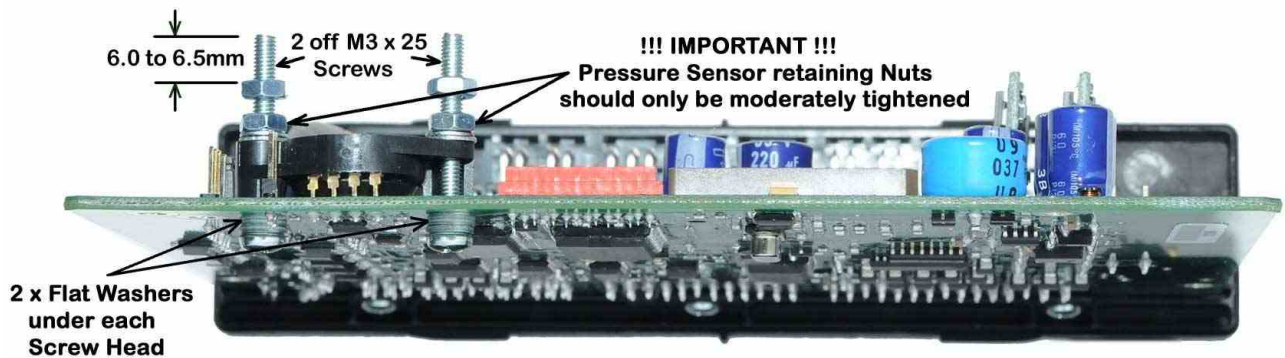

Figure 5 Mounting screw replacement
2.3 MOUNT THE KNOCK PROCESSOR face down on the top of the ECU PCB, above the Pressure Sensor, using longer Pressure Sensor attachment screws (supplied). Prepare ECU by replacing the Pressure Sensor screws with the supplied M3 x 25mm screws (2off). To avoid Pressure Sensor damage, replace one screw at a time and only moderately tighten the sensor retaining nuts to avoid crushing the sensor mounting lugs. Install a second nut on each screw, positioning it 6 to 6.5 mm from the screw end (see Fig 5). Plug the ribbon cable red connector into ECU PCB socket and mount the Knock Processor, using flat washers and then shake proof washers before fitting and tightening the retaining nuts. Low strength thread-locking compound or varnish should be used to prevent possibility of loosening. Ensure that the ribbon cable is neither pinched nor likely to be subjected to chafing. Ensure that the Knock Processor is mounted parallel to the ECU PCB surface; if not, adjust the position of the nut/s on the mounting screw/s. The Knock Processor **MUST NOT** over hang the edges of the ECU PCB. If installed with overhang, damage to the Knock Processor will occur when the case end plate screws are tightened.